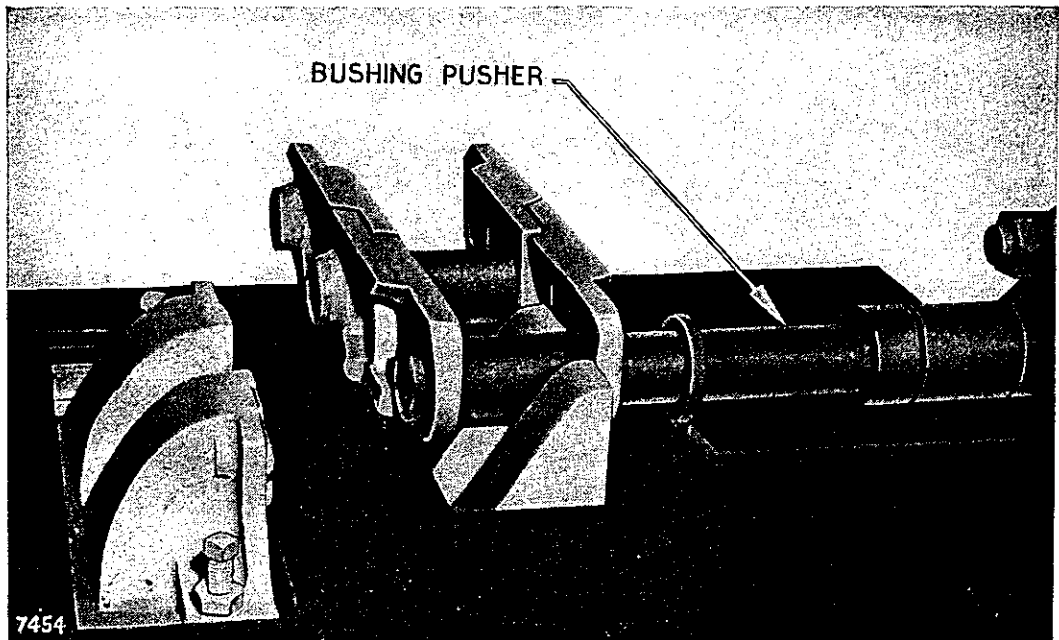

FIG. 2 REMOVING BUSHING
2. Press the bushing out of one link using the jaws and bushing pusher (Fig. 2).